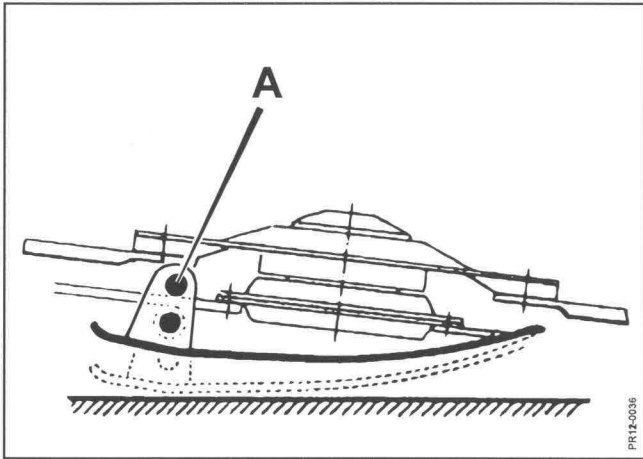

Fig. 4-15
The stubble height is continuously adjustable by adjusting the inclination of the cutter bar and the adjustable guide shoes (Fig. 4-15).
- Fig. 4-15** 2) Adjust **the stubble height** by means of the guide shoes and by adjusting the inclination of the cutter bar.